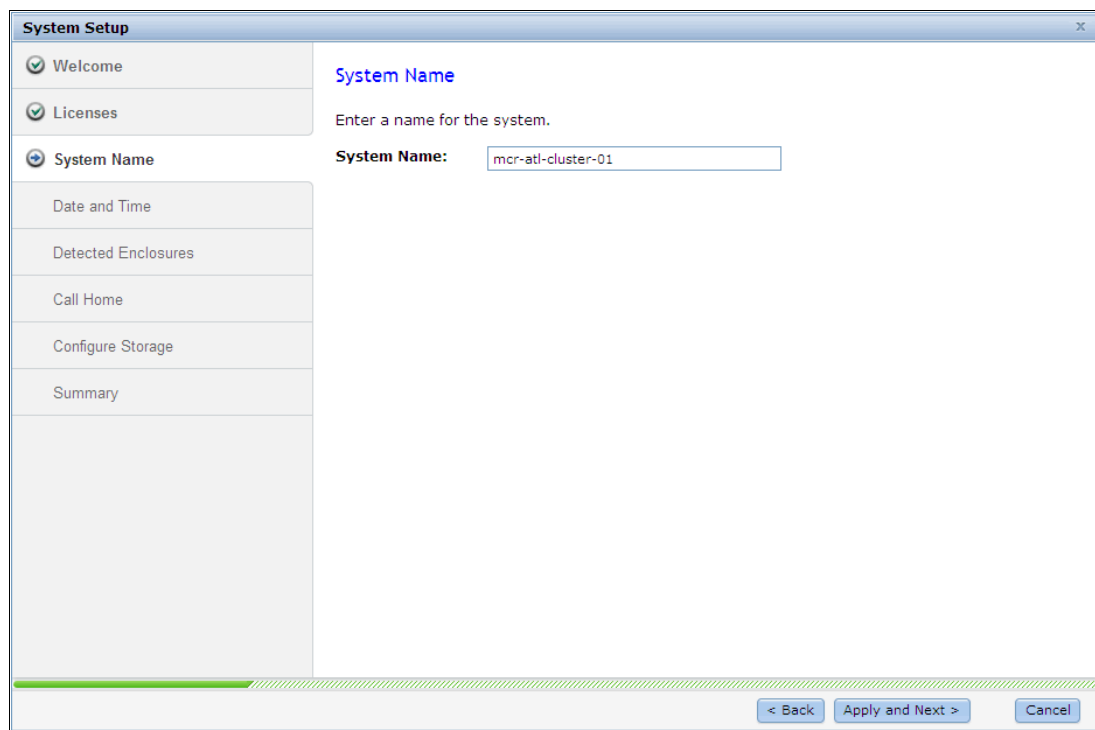

Figure 2-20 Setup wizard: Insert system name
3. Set up the system name, as shown in Figure 2-20.